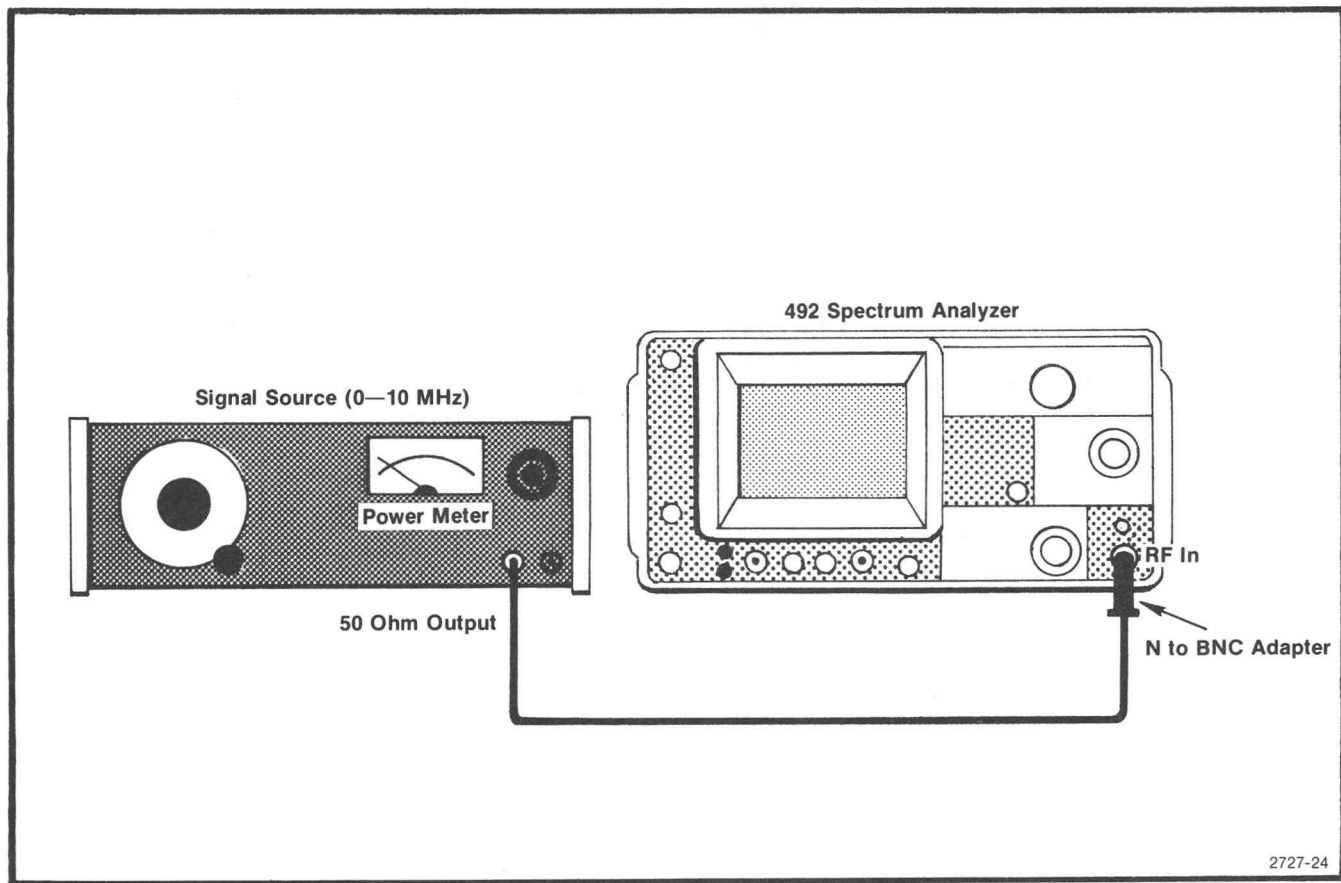

Fig. 3-4. Test equipment setup for checking the 0-10 MHz frequency response.
a. Test equipment setup is shown in Fig. 3-4. Set the front panel controls as follows:
a. Test equipment setup is the same as the Part 1 procedure (Figs. 3-4 through 3-6). Set the front panel controls as follows: